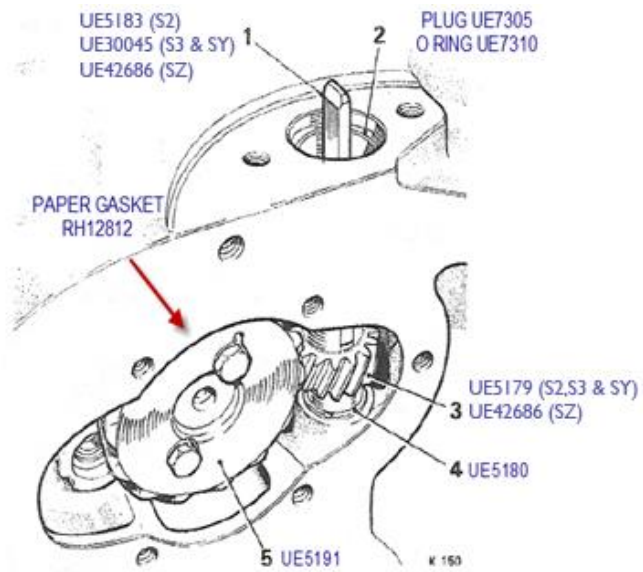

FIG. E44 VIEW OF DISTRIBUTOR DRIVING GEARS
4. When the gear is fitted, the slot in the top of the gear spindle should be in line with the camshaft (*see Fig. E44*).